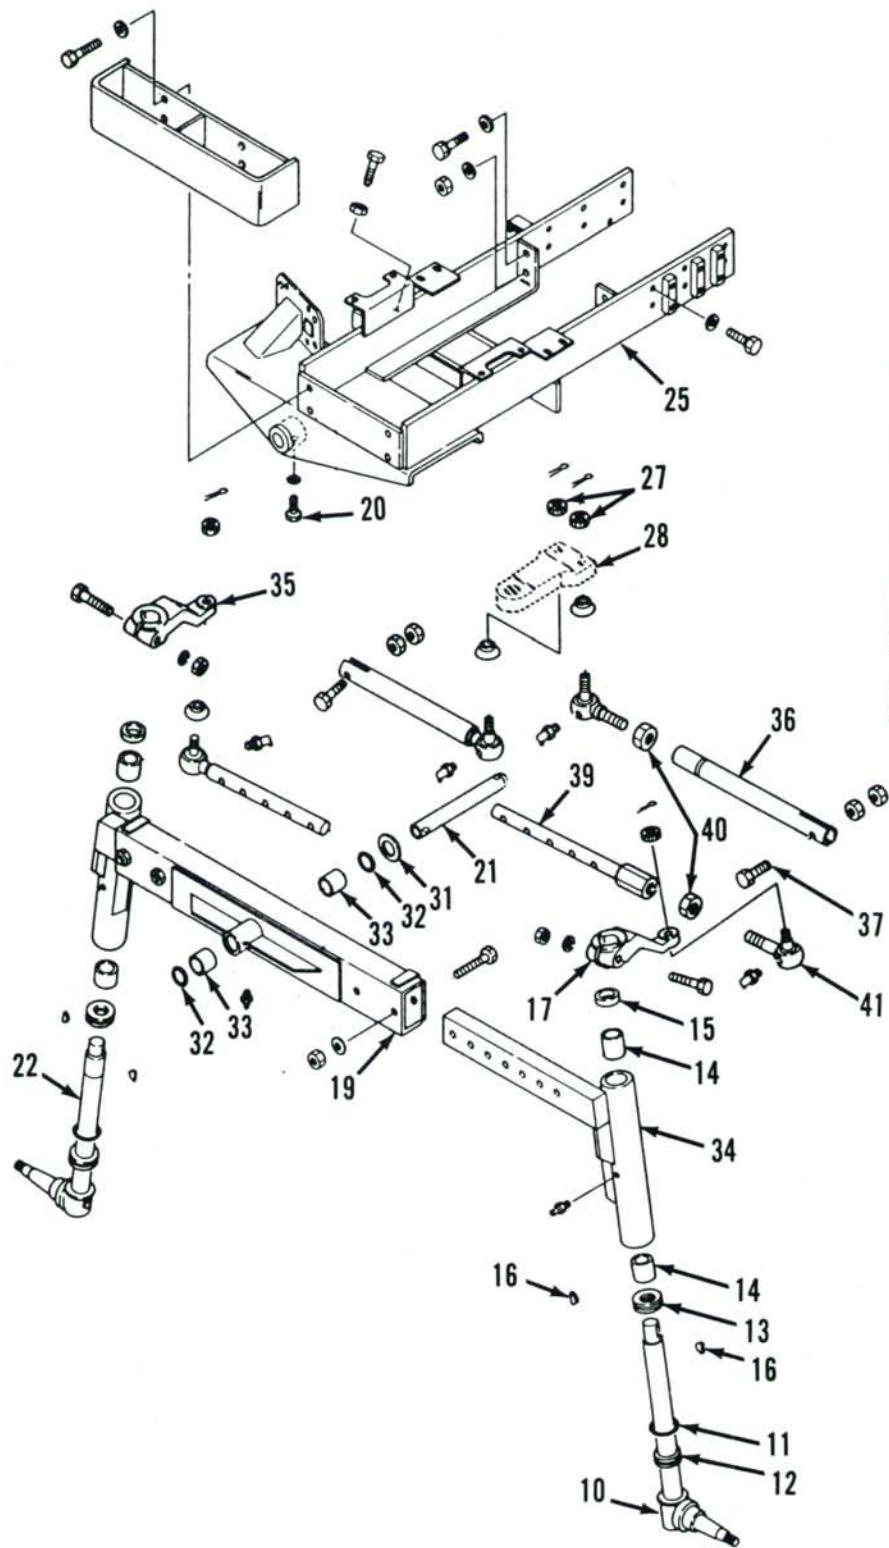

Fig. 4—Exploded view of adjustable axle used on 265 models. Axle is offset to right side of engine centerline.
3. On 265 models, one tie rod connects left steering arm (17—Fig. 4) to steering arm (28) and a second tie rod connects right steering arm (35). Automotive type ends are not adjustable for wear and should be renewed if worn. Holes for clamp bolts (37) in tie rods are used to adjust length of tie rods when changing adjustable axle width. It is important that both tie rods be adjusted to the same width and that width corresponds to the axle width. Refer to paragraph 14 when changing axle width.